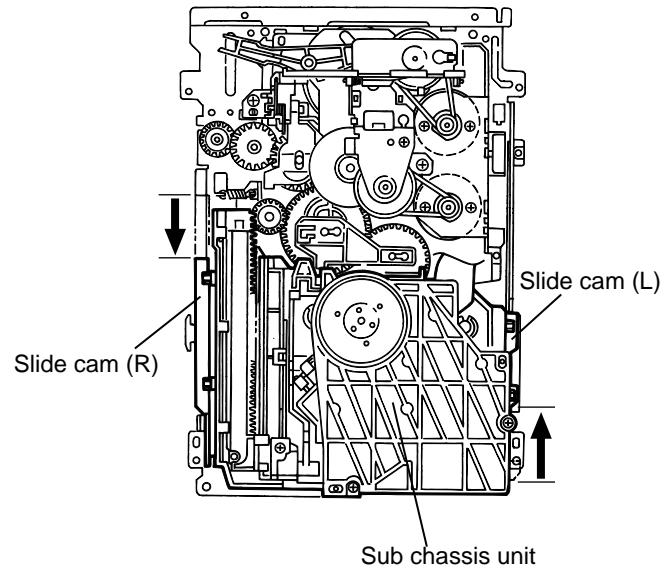

Fig.10
■Removing the sub chassis unit (See Fig.10 to 12)
- Prior to performing the following procedures, remove the servo control board, the top cover, the tray unit, the side unit (L) and the side unit (R).
- Turn the hook gear counterclockwise to move the slide hook and the slider (R) backward until they stop.
- Slide the slide cam (L) and the slide cam (R) in the direction of the arrow until they stop.